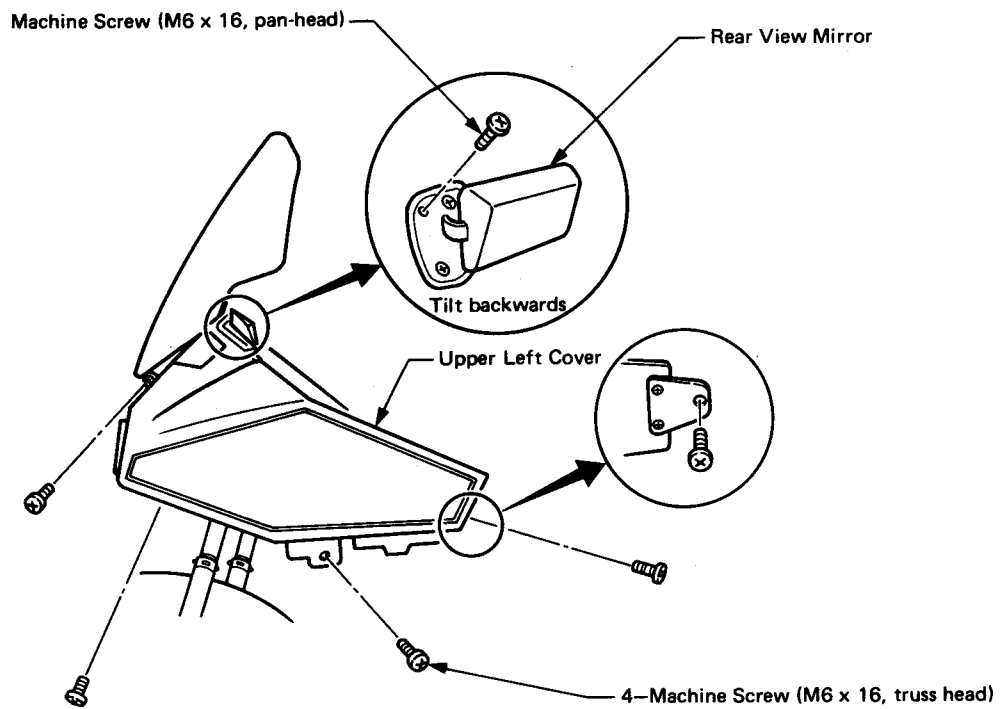

Fig. 9
9. (1) Remove the screws and the Upper Left Cover, as shown in Fig. 9.